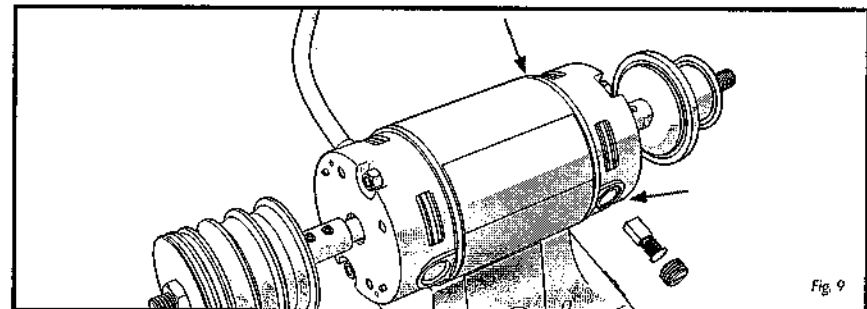

Fig. 9
- Check for carbon brush wear periodically (about every 100 hours of continuous operation). The brush fixer are located on the right side of the motor, one in the front of the machine and the other in the back. Use a flat head screw driver to remove the brush fixer. Install new carbon brushes if the old parts are less than 6.5mm or 1/4" long. Make sure the ends of the brushes are in line and touch the commutator surface. Fig. 9